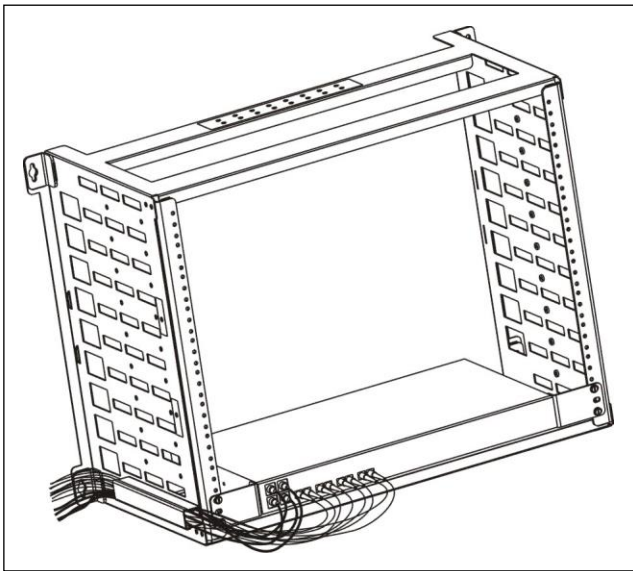

Figure 9. Cable guide application
- ② Groom cabling from the front of the chassis to the wall through the cable guide on the side of the WR-10U23, as shown in Figure 9, and replace the sliding cover.